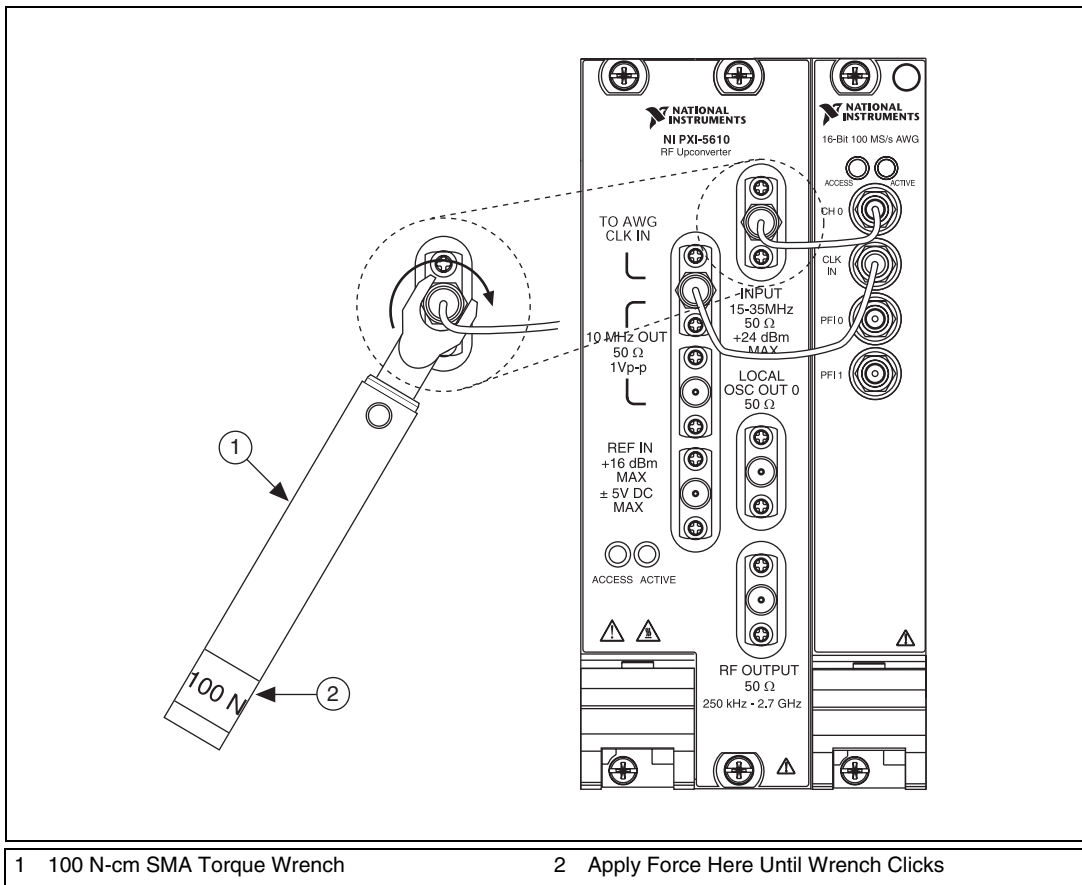

Figure 6. Torque All SMA Connectors to 100 N-cm
3. Carefully tighten all SMA connectors to 100 N-cm using an SMA torque wrench (not included), as shown in Figure 6. Tighten only until the wrench clicks.